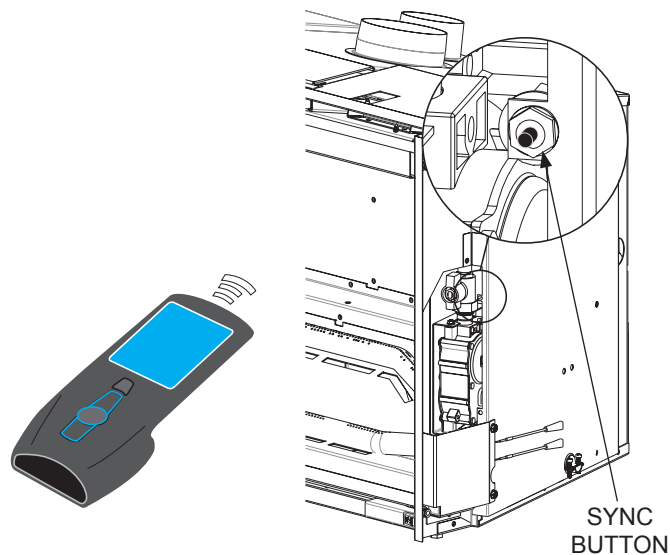

Figure 28
2. Push the sync button to the right of the insert. See **Figure 28**.